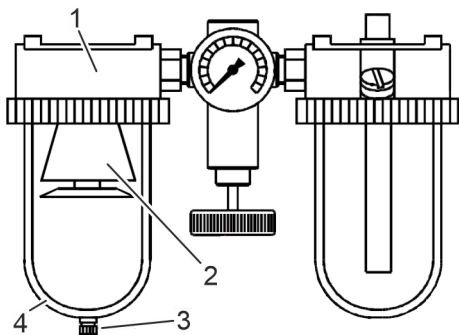

Fig. 14: Water separator (filter)
1. ➔ Drain the condensate at the water separator (Fig. 14/1).
2. ➔ Check the filter (Fig. 14/2) for dirt. Clean the filter if it is dirty